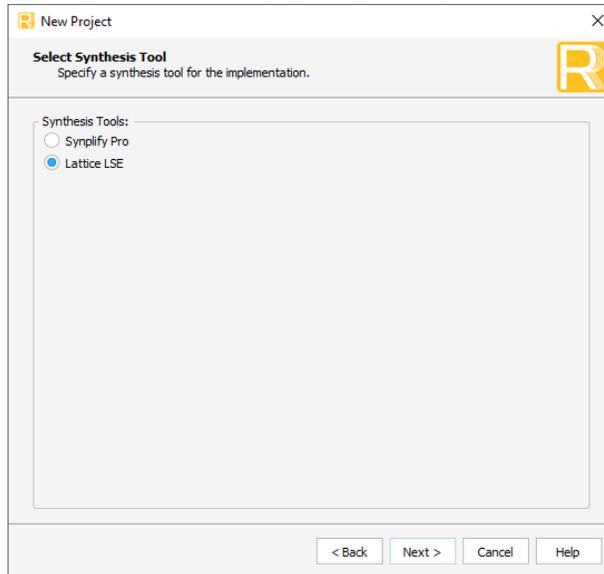

Figure 6.4. Project Synthesis Tool Selection
- Specify the desired synthesis tool for implementation of the Lattice Radiant project, as shown in Figure 6.4. Click **Next** and **Finish**.